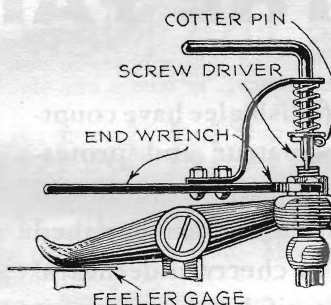

Fig. 3. Timesaving tool for adjusting overhead valves fitted with slotted bolt and lock nut.
H. T. Goshon, of Pasadena, Calif., wins this month's \$10 prize for his suggestion of a valve adjusting tool, shown in Fig. 3. Each month POPULAR SCIENCE MONTHLY awards \$10, in addition to regular space rates, for the best idea sent in for motorists. Other contributions that are published are paid for at the usual rates.
FIGURE 3 shows a homemade tool that will be a timesaver for either the garage mechanic or the motorist who does his own repairing in adjusting overhead valves that are fitted with a slotted bolt and a lock nut. Its advantage is that you do not have to remove the screw driver from the slot each time you test the clearance between the valve stem and the end of the rocker arm. The spring holds it securely in the slot.